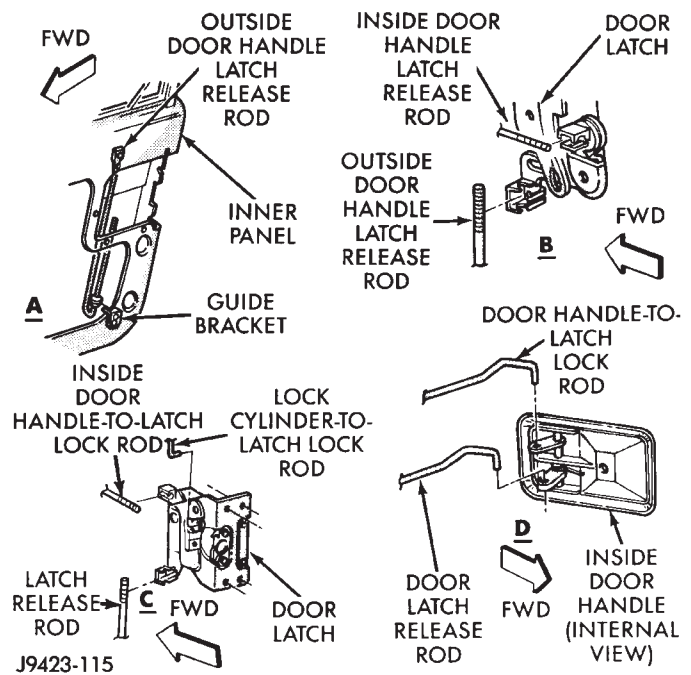
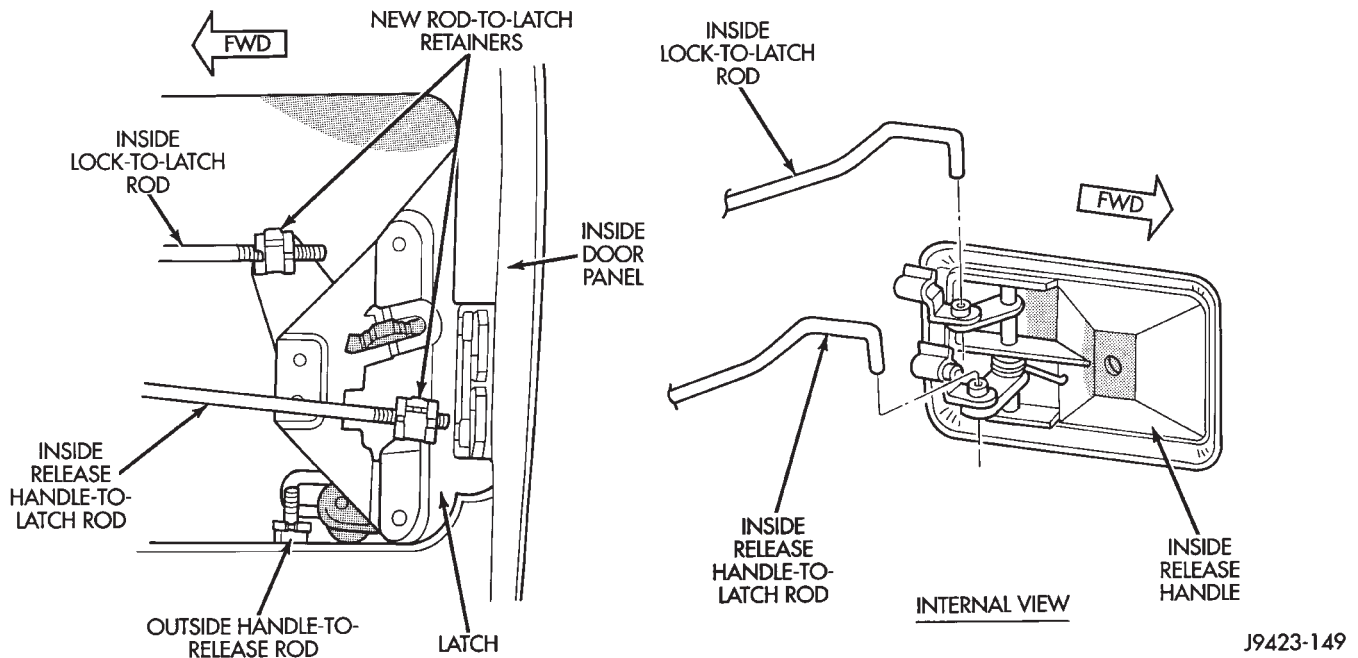

Fig. 19 Latch Rod Connections
Fig. 20 Latch Rod Positions
(10) Connect the latch rods (Fig. 19). Attach the inside release handle securely. Attach the rods to the latch making sure the lock position of the lock position of the latch toggle button are the same (Fig. 20).
(14) Install the window regulator handle.
(15) Connect the handle-to-latch rod and the lock-to-latch rod to the door latch inside release handle and install the handle (Figs. 19 and 8).
(16) Install the assist handle.
(17) Attach the restraint strap to the pin.